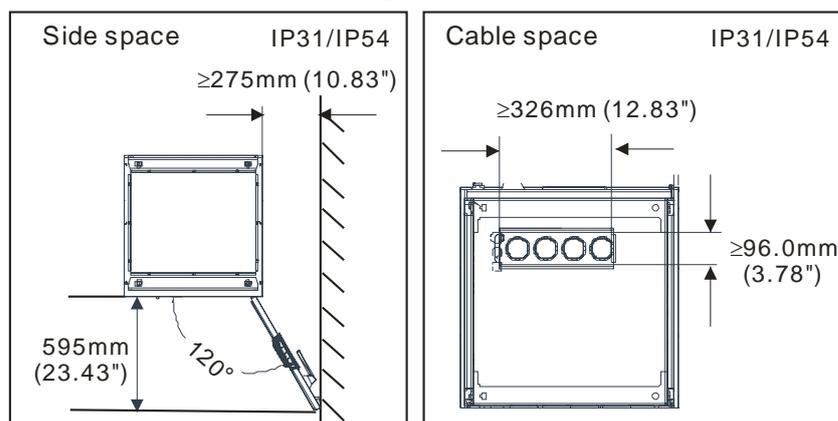
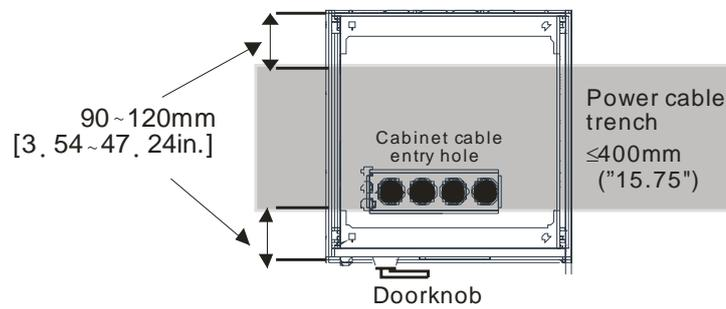

Figure 2-1b
Figure 2-2
4. Cable space: When cable trenches are used (as shown in Figure 2-1b), be careful of where the cabinet is being installed. The "Cabinet cable entry hole" must be right above the cable trenches with a distance of no greater than 400 mm (15.75 inches), as shown in Figure 2-2.
(A) At the location where the cabinet is going to be placed, some spaces must be reserved to support the cabinet. Reserved supporting spaces are shown in figure 2-2, please keep the distances at 90 to 120 mm (3.54 to 4.72 inches) to ensure the cabinet is installed securely.